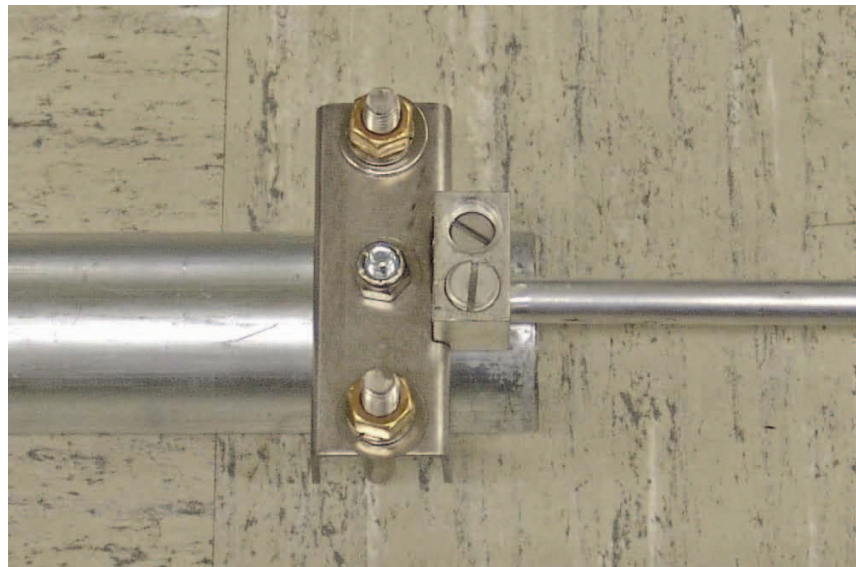

FIGURE 2.3-2. Installed Lightning Rod
Step 2: Place clamp onto top of mast Section 5 and tighten (see Figure 2.3-2).
Step 3: Insert rod into clamp and tighten (see Figure 2.3-2).